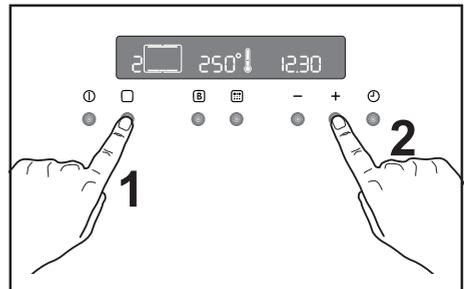

Fig. 2
- 2) press button  twice and select the "Conventional Cooking" function  (Fig. 2).